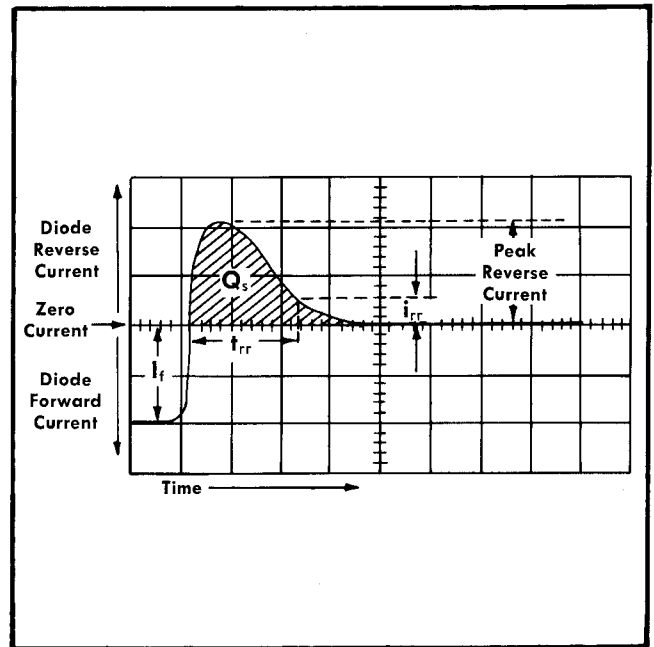

Fig. 3-2. Diode reverse recovery switching display.
Stored Charge (Q_s)—Amount of charge stored by the diode, and recovered during reverse recovery. Represented by shaded area in Fig. 3-2, and usually stated in coulombs.
8. Turn the pulse generator on, and set the oscilloscope triggering controls for a display similar to that shown in Fig. 3-2. Use this display to measure the reverse-recovery switching characteristics of diodes whose V_r (then E_{gen}) is known. Proceed to step 9 if the peak reverse current is known.